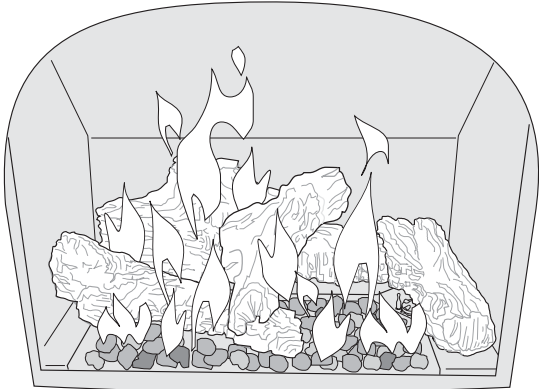

Figure 29. Flame appearance on the “high” setting after approximately 15 to 20 minutes burning.
3. **BURNER ADJUSTMENT:** This stove is equipped with a variable gas control valve that allows easy adjustment of the flame height appearance and heat output. To adjust the flame between the HI and LOW setting, rotate the HI/LOW knob, located in the center of the valve face. **Fire intensity can be adjusted up to 50% between the LOW and HIGH settings. See fig. 29.**